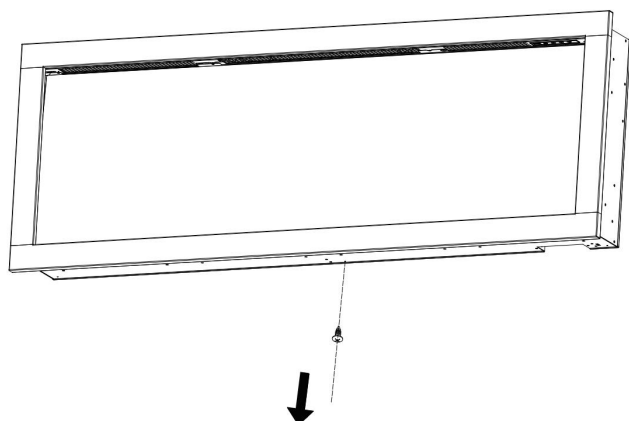

Fig 4-1
A. Remove the silver screw at the bottom of the appliance. **(Fig 4-1)**. Set the screw aside.